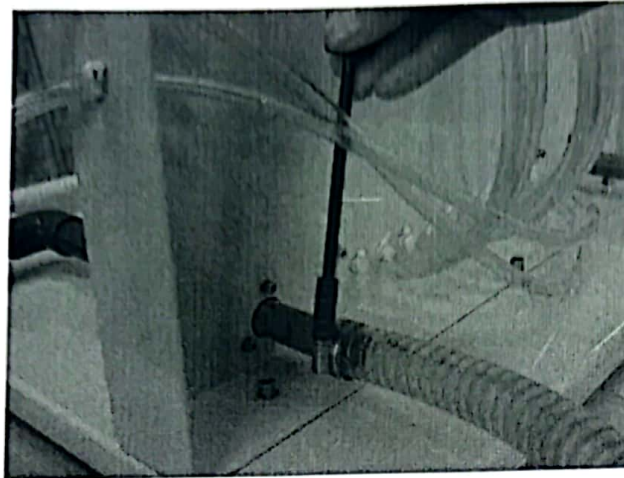

Figure 5 Connect the Outlet of Your Hydraulic Bench to the Inlet of the H34
3. Use the fixings supplied to connect the outlet of your hydraulic bench (not supplied) to the inlet of the H34. See Figure 5.